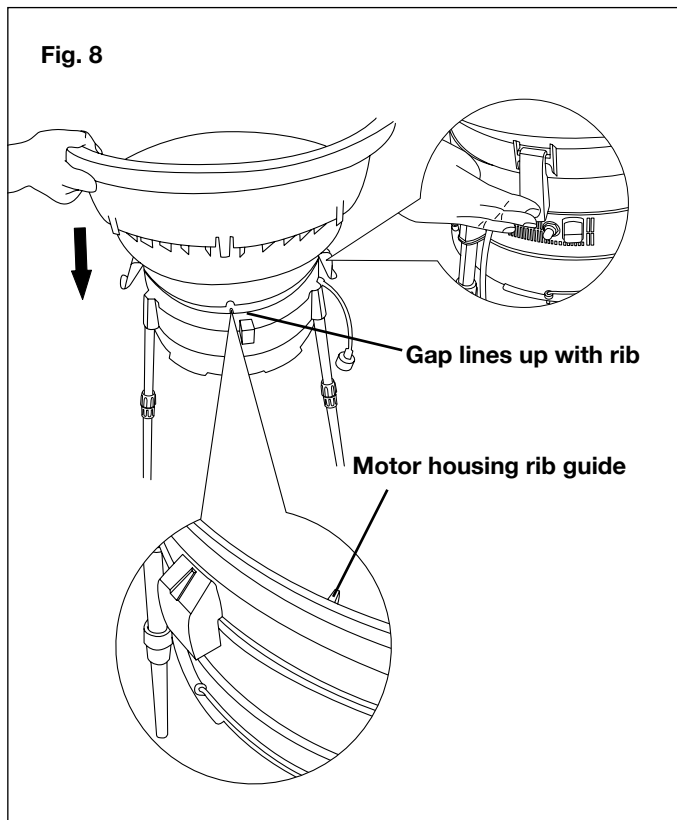

Fig. 8
2. Fit the funnel onto the motor housing, aligning the funnel gap with the motor housing rib. Use the clamps located on the motor housing to secure the funnel in place (Fig. 8).